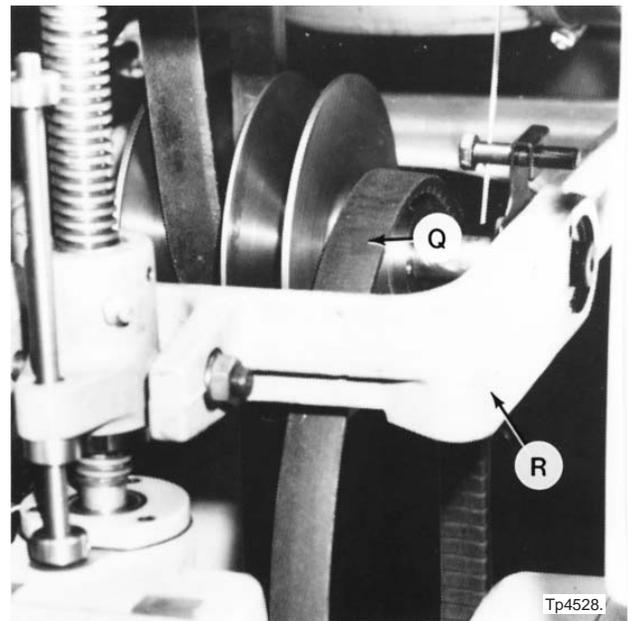

Figure 4.72 - Motor Belt on Pulley Hub
15. Roll motor belt "Q", Figure 4.72, to the right off the pulley and let it rest on the pulley hub, as shown.
18. Turn speed adjustment knob "L", Figure 4.67, to "Faster" and hold in that position until pulley hanger assembly "R", Figure 4.72, reaches maximum upward travel.
25. Remount the countershaft assembly by sliding the left end of the countershaft assembly back into countershaft support bracket "R", Figure 4.72 .